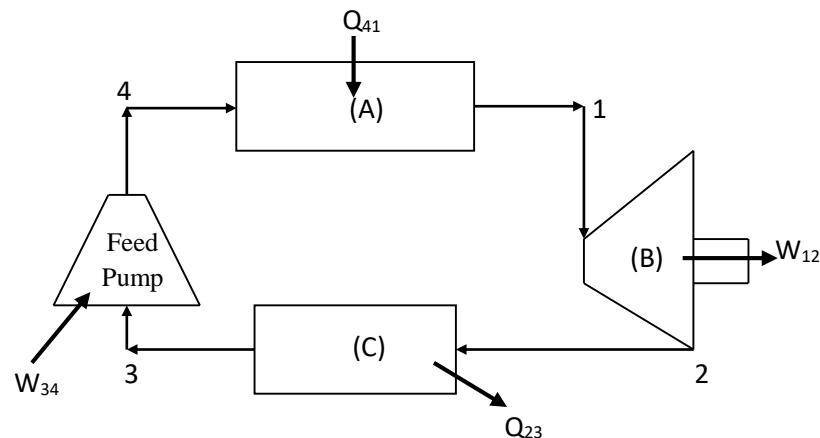

Figure Q4 (b)
C2 (b) Explain the function of components (A), (B) and (C) in a simple close cycle steam plant as illustrated in the Figure Q4 (b).